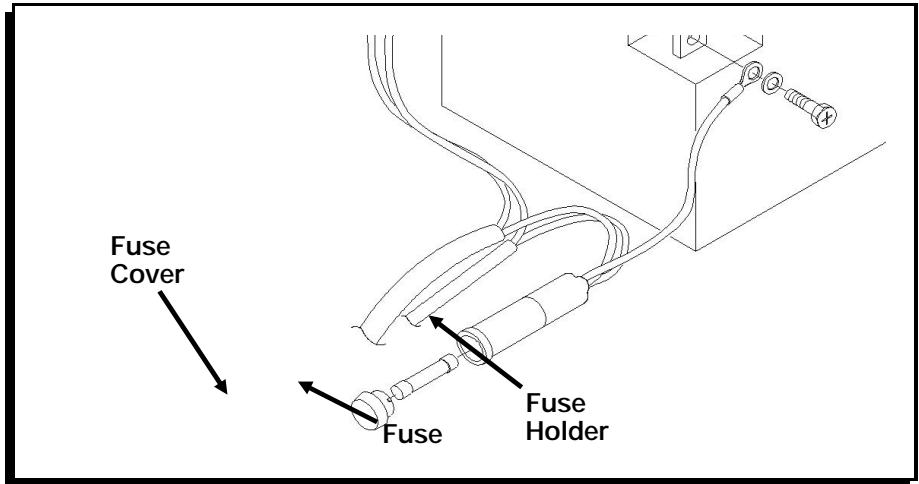

Figure 41
2. Open the Station's cabinet. Press and turn the fuse cover as shown until it pops out. (Figure 41.)
3. Pull the fuse out of the cover. (Figure 41.)